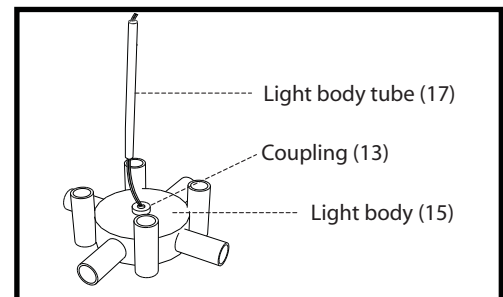

FIG. 2
Step 3: Slip electrical and ground wires from light body (15) through light body tube (17). Thread light body tube (17) into coupling (13) on light body (15). FIG. 2